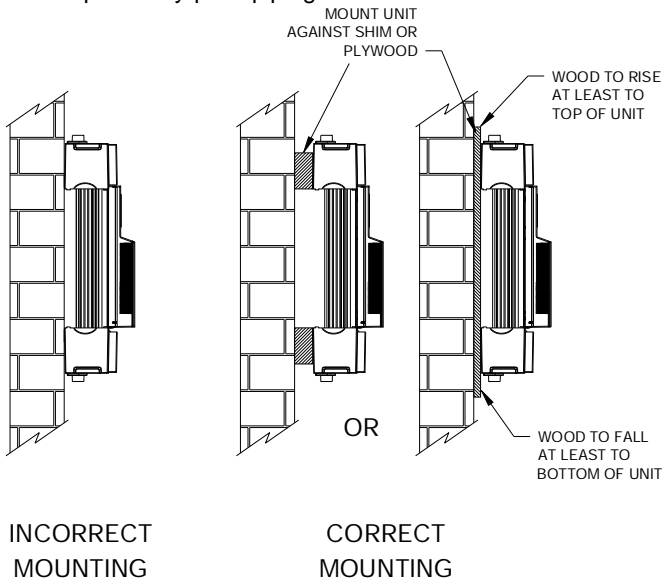

Figure 1C
Step 2: The Cactus has two keyhole slots (top) and two round holes (bottom) for convenient mounting – all four should be used. To mount the system, use the template, included, to position the two top holes. **The unit should be secured vertically to a solid wall or plywood, large enough to cover the complete backside of the unit – See Figure 1C. Do not** install the system horizontally. Remove the top and bottom covers of the unit to make the mounting holes accessible.